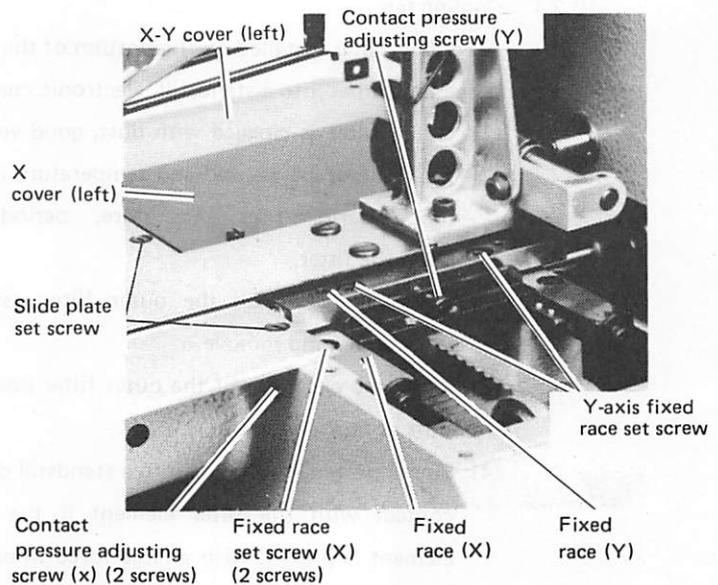
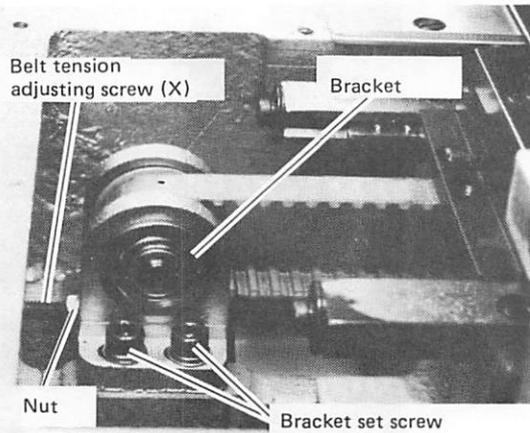

Fig. 10.28
Fig. 10.29
(2) Adjusting the X-Y table contact pressure
a. To adjust contact pressure of the X-Y table, remove the X-Y covers (left and right) shown in Fig. 10.28 and the X covers and loosen fixed race set screws (X) (2 screws) to such an extent that the fixed race (X) may be moved.
b. X-axis contact pressure increases when two contact pressure adjusting screws (X) are tightened.
(1) To adjust tension of the X-axis belt, remove the right X-Y cover (see Fig. 10.28), loosen the nut shown in Fig. 10.29, loosen the four bracket set screws to such a degree that the bracket can be moved and then tighten the belt tension adjusting screw (X).